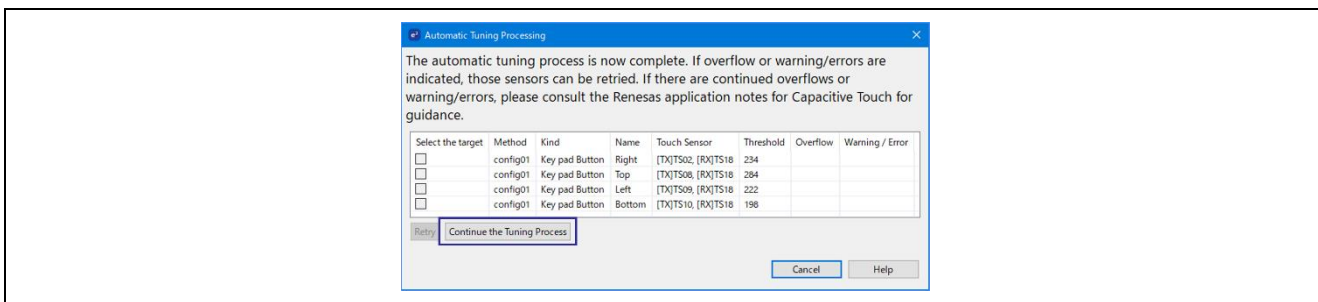

Figure 4-15 Results of Sensitivity Adjustment
- Click “Continue the Tuning Process” when the message in Figure 4-15 is displayed.